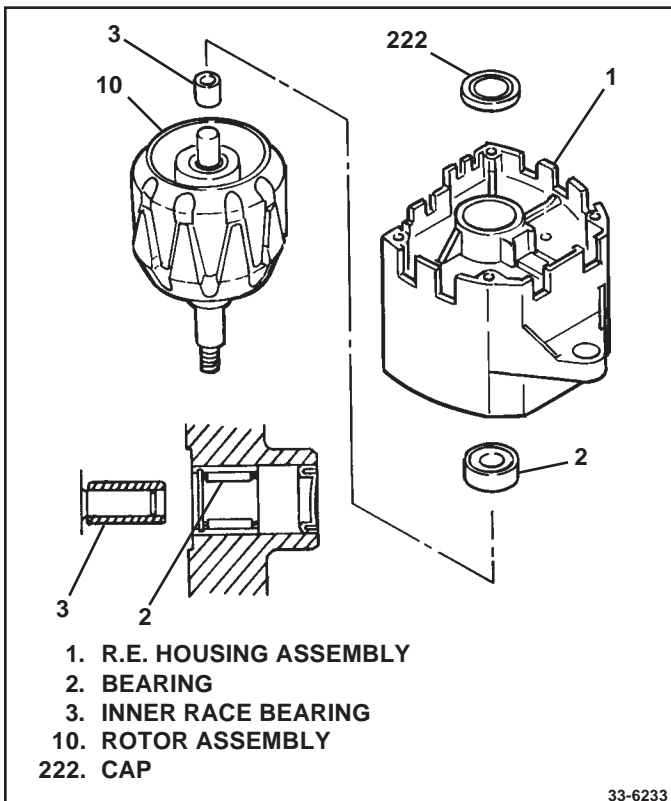

Figure 23. Removing Rectifier End Bearing
12. To remove rectifier end bearing (2) from RE housing (1), (See Fig. 23) use small screwdriver at slot to pry plug (222) from housing.